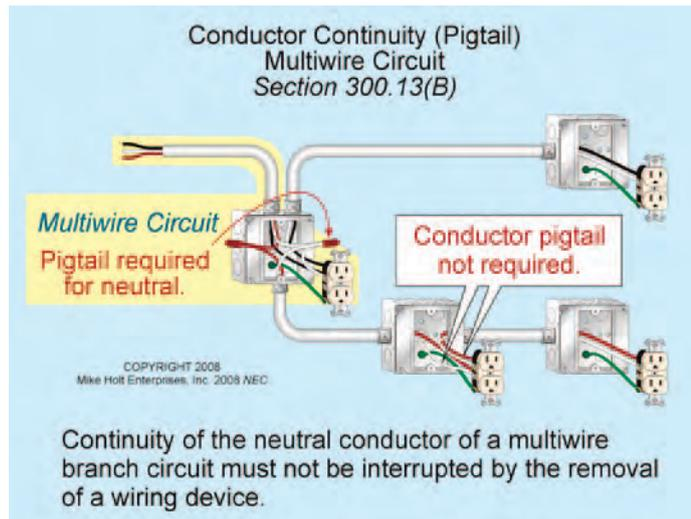

Figure 300–26
(B) Conductor Continuity. Continuity of the neutral conductor of a multiwire branch circuit must not be interrupted by the removal of a wiring device. In these applications the neutral conductors must be spliced together, and a “pigtail” must be provided for the wiring device. **Figure 300–26**
Example: A 3-wire, single-phase, 120/240V multiwire circuit supplies a 1,200W, 120V hair dryer and a 600W, 120V television. If the neutral conductor of the multiwire circuit is interrupted, it will cause the 120V television to operate at 160V and consume 1,067W of power (instead of 600W) for only a few seconds before it burns up. **Figure 300–27**